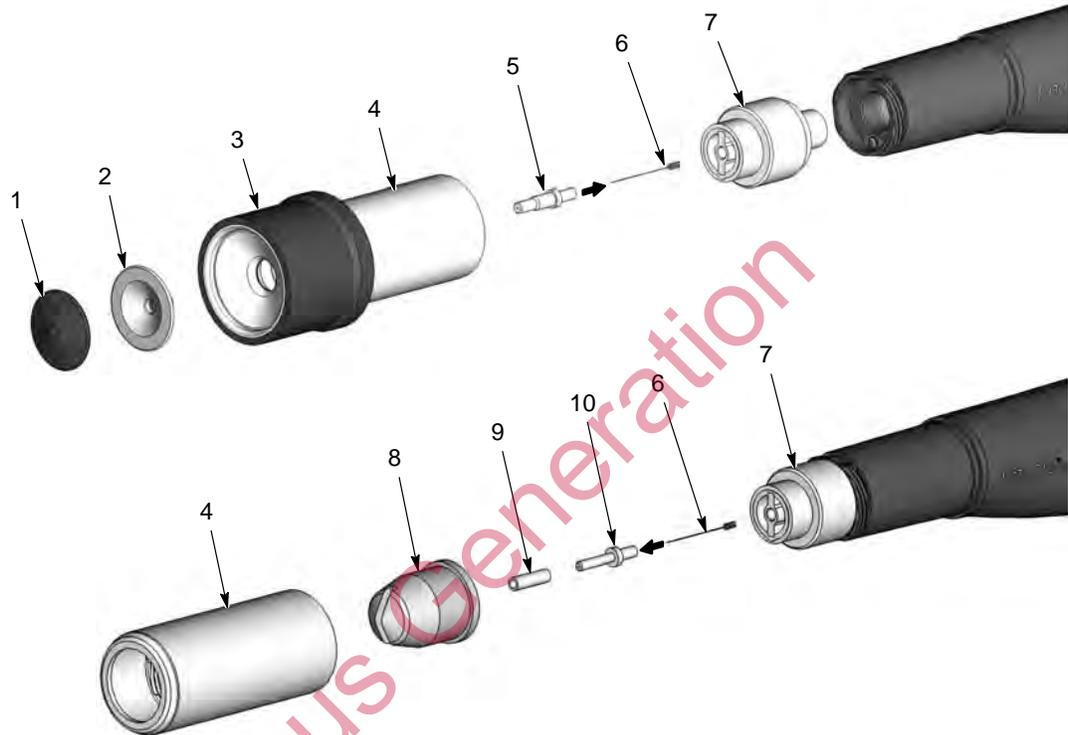

Figure 7 Changing From Conical to Flat or Corner Spray Nozzle
See Figure 7. To change from the standard conical nozzle to a flat or corner spray nozzle, you will need to order:
3. See Figure 7. Remove the nozzle from the gun:
- Conical Nozzle:** Unscrew the deflector cap (1), then remove the deflector (2). Unscrew the nozzle nut (4) and remove it along with the nozzle and pattern sleeve (3) from the gun.
- Flat or Corner Spray Nozzle:** Unscrew the nozzle nut (4) and remove it along with the nozzle (8) from the gun.
4. Pull the electrode support (7) out of the gun.